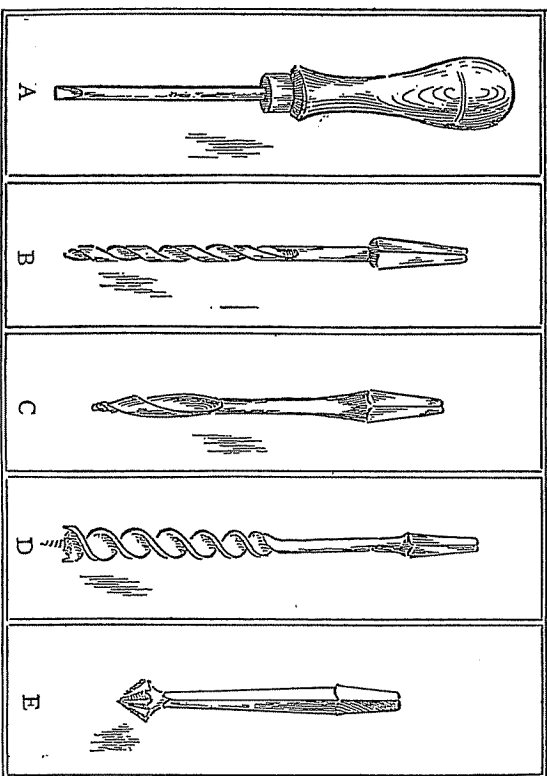

Fig. 23
BORING TOOLS. The most important of boring tools (See Fig. 23) are the brad-awl (A), twist-drill (B), gimlet-bit (C), and auger-bit (D).
COUNTERSINKS. From observation of Fig. 23, E, you will see that the purpose of countersinking is, as the name implies, for setting the hole down, after it has been drilled, for the heads of screws, etc.